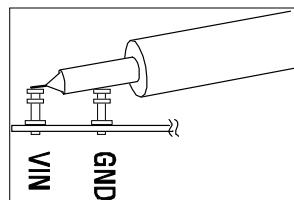

Figure 2. Measuring Input or Output Ripple
**NOTE:** When measuring the input or output voltage ripple, care must be taken to avoid a long ground lead on the oscilloscope probe. Measure the input or output voltage ripple by touching the probe tip directly across the  $V_{in}$  or  $V_{out}$  and GND terminals. See **Figure 2** for proper scope probe technique.